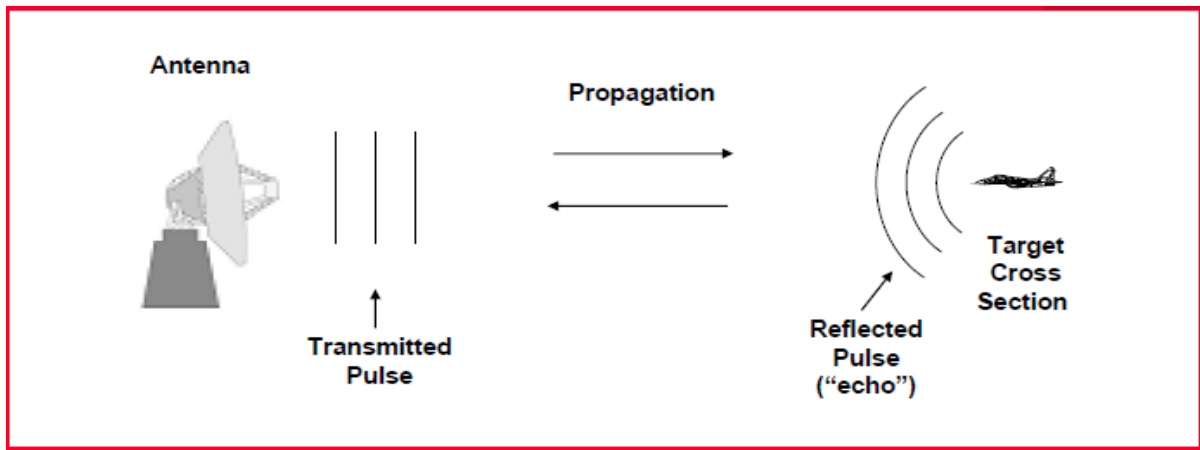

Figure 2: Operation system of radar
The radar was originally an acronym for “radio detection and range”. In general, radars are classified by the type of the waveforms they operate depending on their usage such as detecting velocity and/or distance. They can be Continuous Wave (CW) or Pulsed Radars (PR). As shown in Figure 2, after modulated or unmodulated waveforms are transmitted, propagation takes place. The transmitted wave scatters from a target cross section which is in the search volume of the radar and the reflected wave is received by an antenna. Then, the analysis of the received wave is processed for the range, velocity or some other properties of the target.